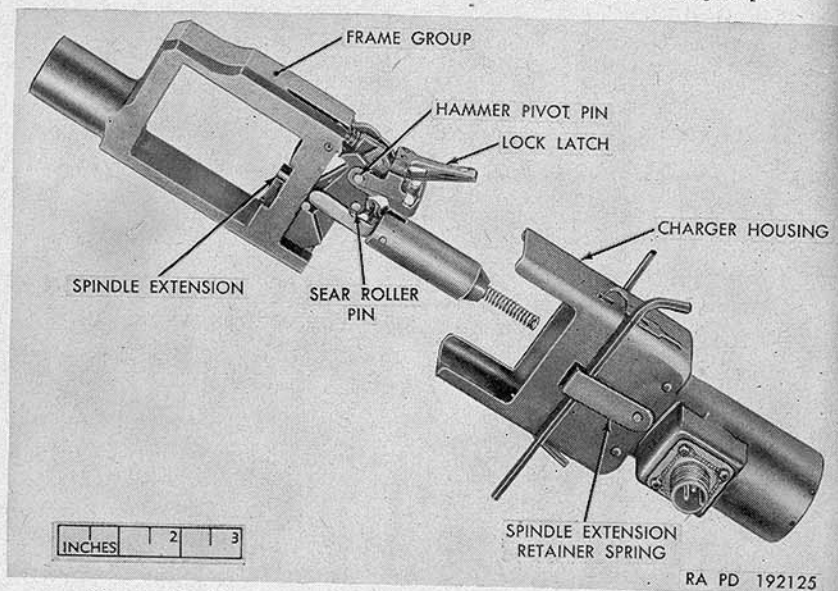

Figure 85. Charger frame group removed from charger housing.
- f. Pry the spindle extension retainer springs (fig. 85) upward, and insert some wedge to hold them in an outward position.
- g. Depress lock latch and withdraw charger frame group from charger housing (fig. 85).